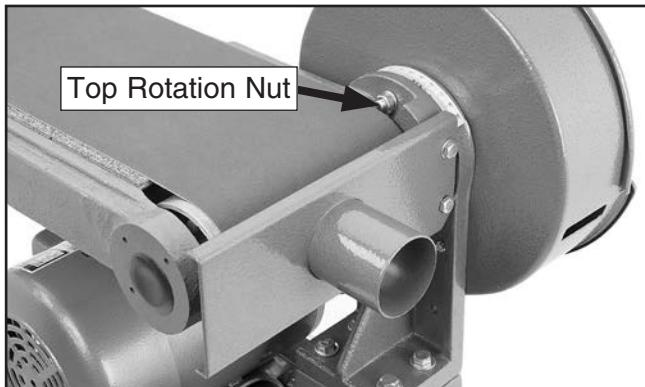

Figure 63. Location of top rotation lock nut.
5. Loosen the sanding frame rotation lock nuts (behind the sanding disc cover) as shown in **Figures 63 & 64**.